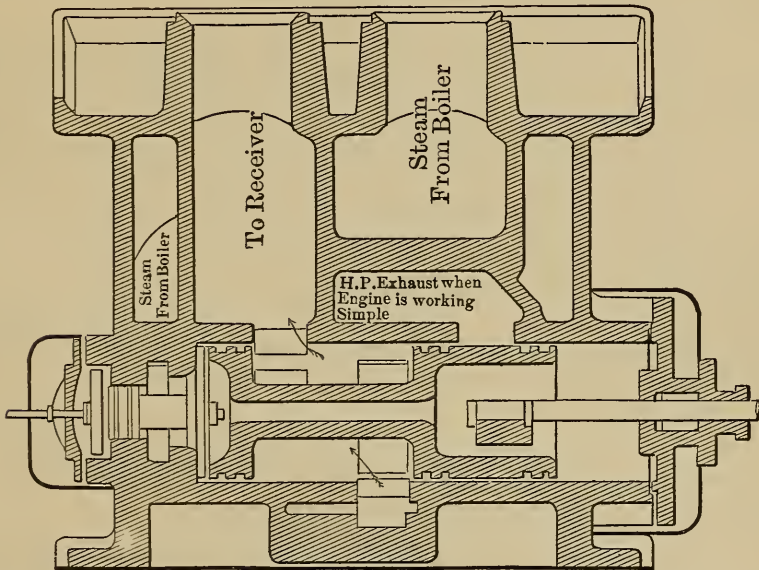

Fig. 217. Pittsburg (Colvin-Wrightman) Compound, Working Compound.
A. In the forward position, as shown in figure 217, so as to cut off live steam from the receiver and the exhaust-pipe from the high-pressure cylinder to the independent exhaust-nozzle, and send the high-pressure exhaust into the receiver.
which admits pressure to the reversing-appliance, and the intercepting valve is moved to the position shown by figure 217. The dropping back of the lever to full stroke again changes the valve, and the engine is thrown into simple as before.